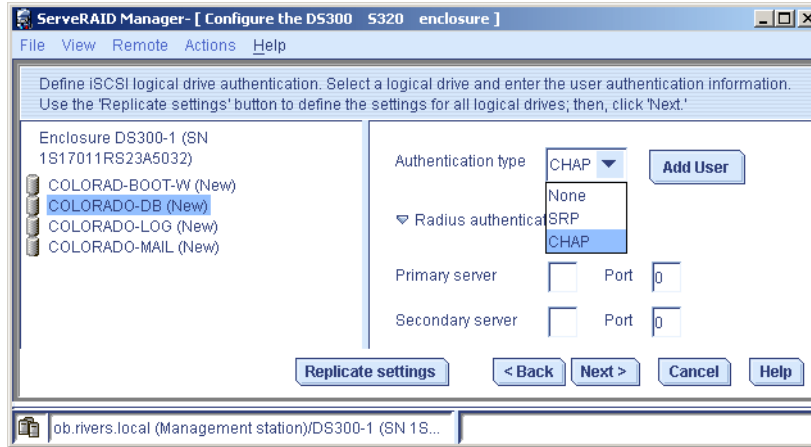

Figure 4-74 Authentication type of logical drive COLORADO-DB
19. Select the logical drive COLORADO-DB from the enclosure. Change the **Authentication type** from **None** to **CHAP** for this logical drive. See Figure 4-74 on page 125.